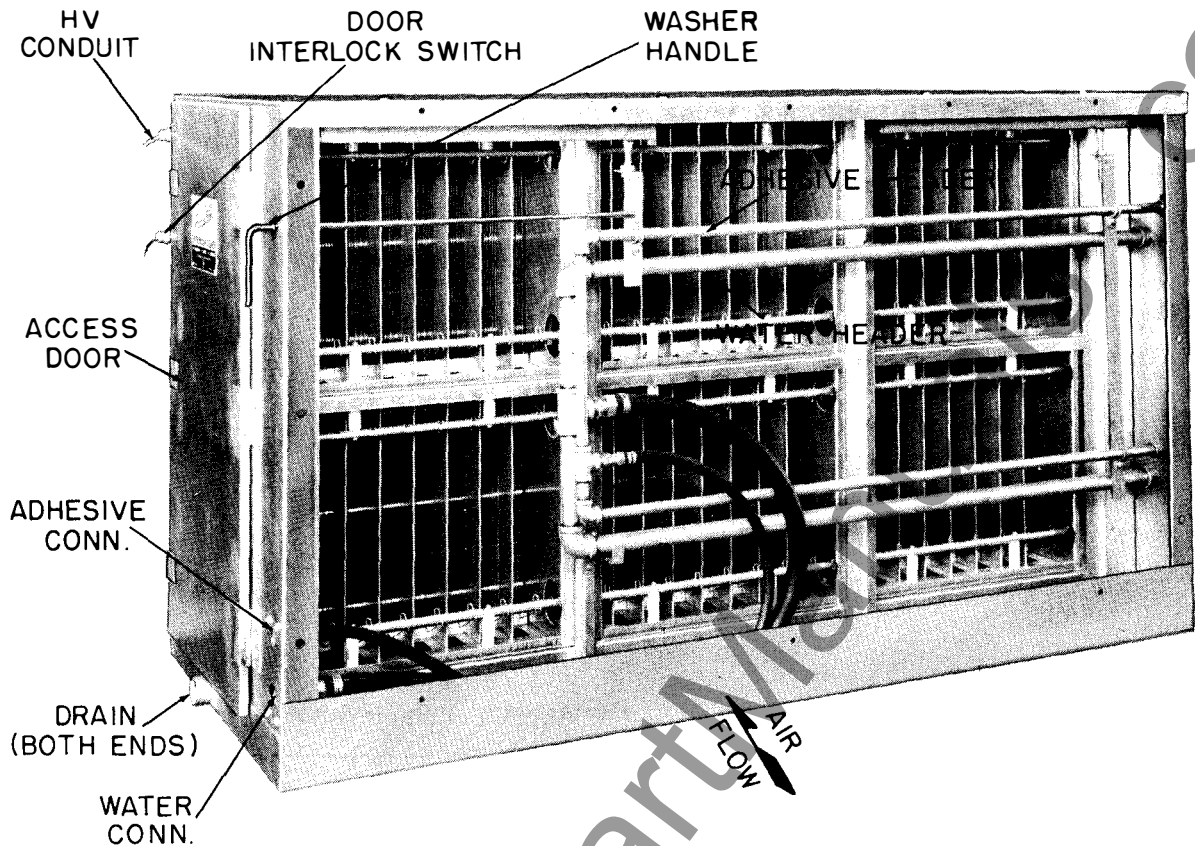

Fig. 1 Typical Cabinet (Inlet Air Side)
**Ducts** are easily attached to the cabinet using the flanges provided on the inlet and outlet air sides. See Figs. 1 & 2. Ducts should be pitched toward the cabinet for drainage of any liquid which might splash or carry over. It is recommended that the ducts be sealed at the cabinet flanges, to insure tight construction and prevent air leaks, particularly of uncleaned air into cleaned air stream.